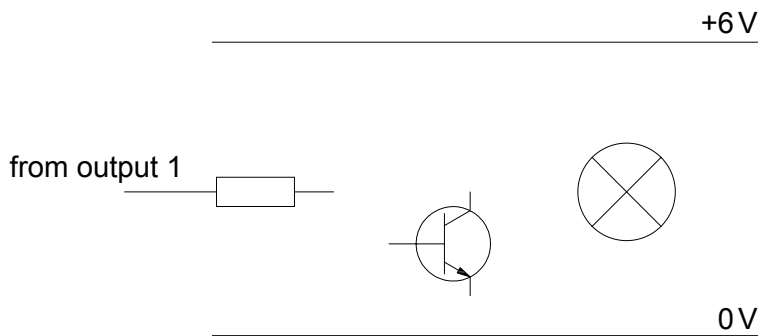

Fig. 12.5
- (iii) To show which player pressed their switch first, a light is connected to each output. Complete the connections on the light switching circuit in Fig. 12.5.